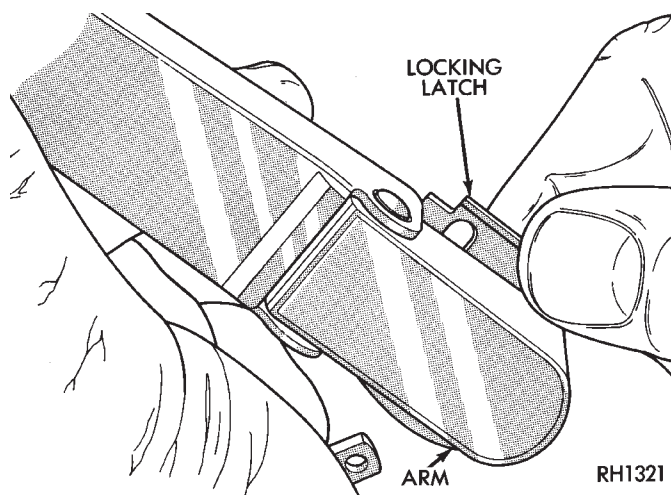
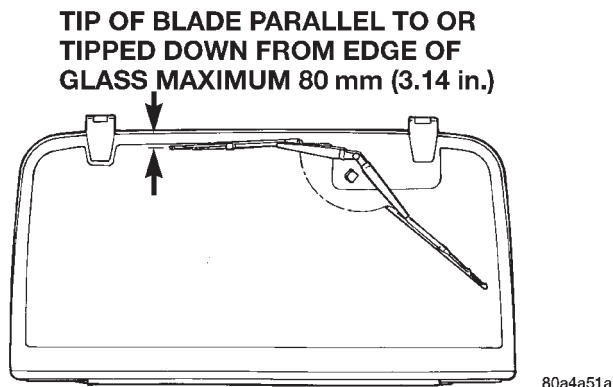

Fig. 7 Wiper Arm Remove/Install
Fig. 9 Rear Wiper Arm Installation
(1) Lift the wiper arm to permit the latch to be pulled out to its holding position, then release the arm (Fig. 7). The arm will remain off the windshield with the latch in this position.
(1) Lift the wiper arm to permit the latch to be pulled out to its holding position, then release the arm (Fig. 7). The arm will remain off the liftglass with the latch in this position.
(2) Remove the wiper arm from the motor output shaft using a rocking motion.
(3) Install the rear wiper arm with the wiper motor in the Park position. Place the rear wiper blade on the liftglass so that it is parallel to or tipped down from the upper edge of the liftglass a maximum of 80 mm (3.14 in.) (Fig. 9).